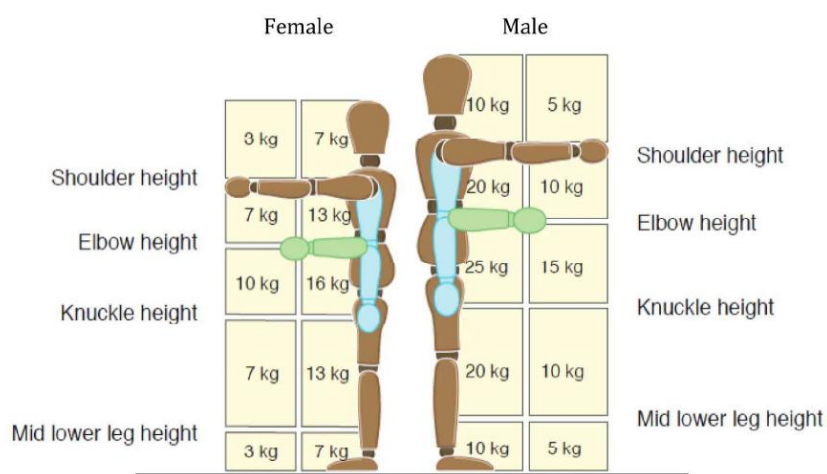

Figure 3.1: Recommended weight
Lifting and lowering only; or	based on Figure 3.1 and Table 3.3
Repetitive lifting and lowering; or	based on Figure 3.1 and Table 3.4
Twisted body posture while lifting and lowering; or	based on Figure 3.1 and Table 3.5
Repetitive lifting and lowering with twisted body posture; or	based on Figure 3.1, Table 3.4 and Table 3.5
Step 4: Key in the recommended weight based on Figure 3.1.
* weight limit based on the Figure 3.1
*weight limit based on the Figure 3.1